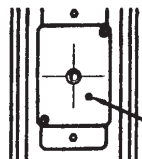

FIGURE 1
6. Pass electrical wiring into the enclosure bottom via watertight fittings or conduit fittings. Strip and attach power wires to the appropriate wire pigtails supplied with the control element. Connections can be made using wire nuts. See Figure 1.